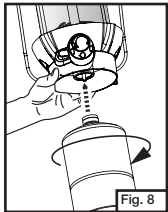

Fig. 8
- Screw propane cylinder into lantern. Take care not to cross-thread. Hand tighten only. (Fig. 8)